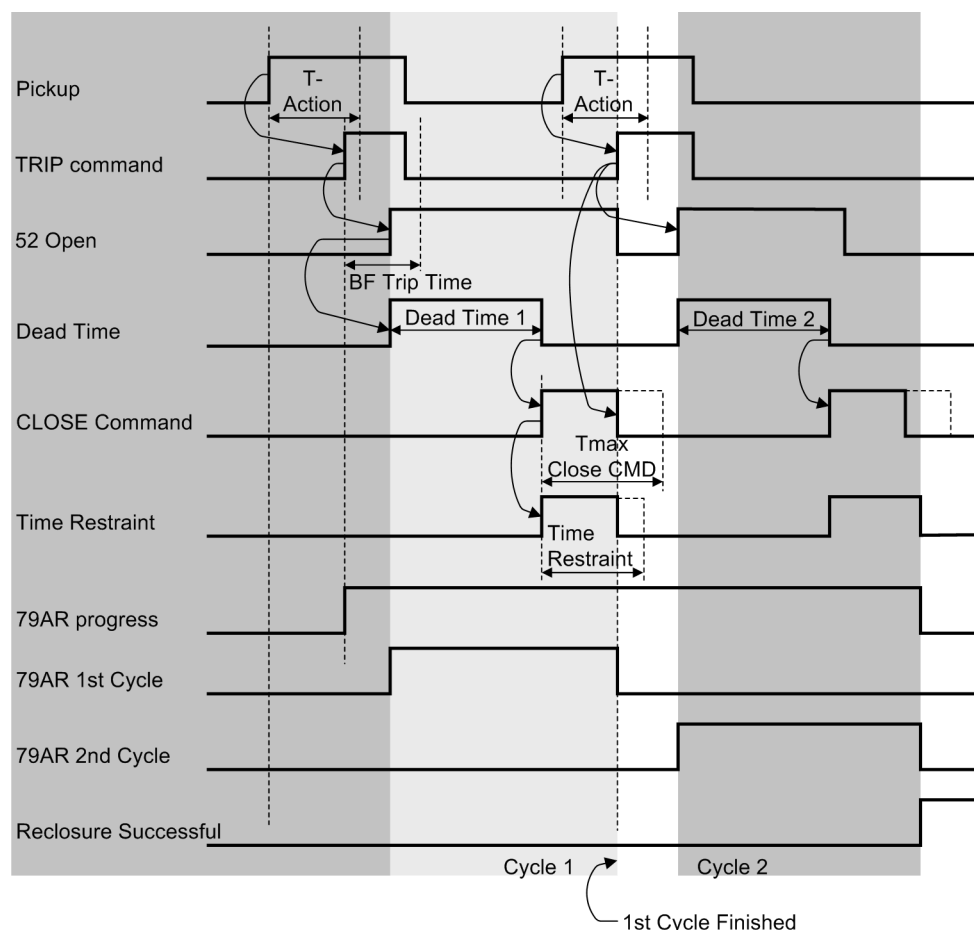

Figure 2-79 Timing diagram showing two reclosing shots, first cycle unsuccessful, second cycle successful
The 7SJ62/63/64 is equipped with three-pole, single-shot and multi-shot automatic reclosure (AR). Figure 2-79 shows an example of a timing diagram for a successful second reclosure.